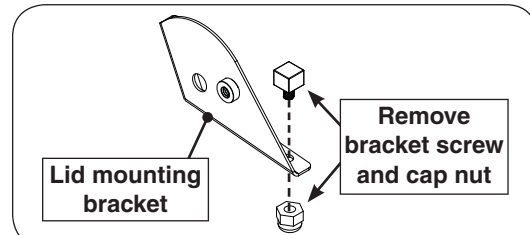

Fig. 2-2 Remove bracket screw & cap nut
2. Disassemble the lid mounting bracket from the lid gear (see parts list). Remove the bracket screw and cap nut ($3/8"$ wrench) from the lid mounting bracket as shown in Fig. 2-2.